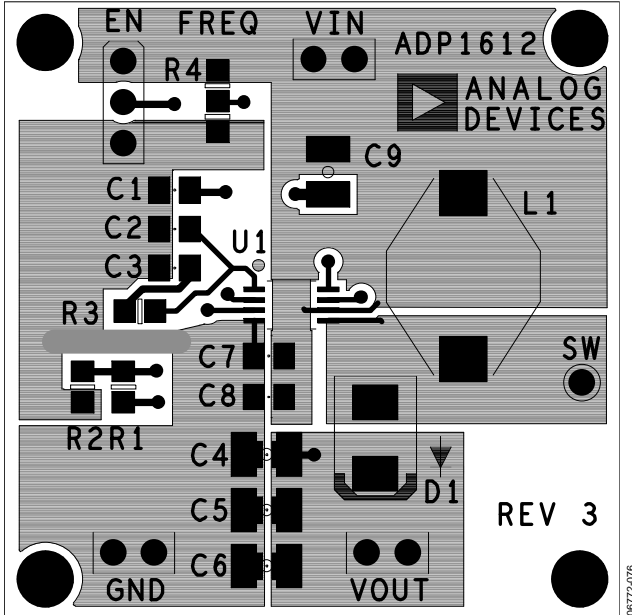

Figure 76. Example Layout for ADP1612/ADP1613 Boost Application (Top Layer)
- Keep the low ESR input capacitor,  $C_{IN}$  (labeled as C7 in Figure 76), close to  $V_{IN}$  and GND. This minimizes noise injected into the part from board parasitic inductance.
- Keep the high current path from  $C_{IN}$  (labeled as C7 in Figure 76) through the L1 inductor to SW and GND as short as possible.
- Keep the high current path from  $V_{IN}$  through L1, the rectifier (D1) and the output capacitor,  $C_{OUT}$  (labeled as C4 in Figure 76) as short as possible.
- Connect the softstart capacitor,  $C_{SS}$  (labeled as C1 in Figure 76) as close to the device as possible. Connect the ground of the softstart capacitor to an AGND plane that makes a Kelvin connection to the GND pin.